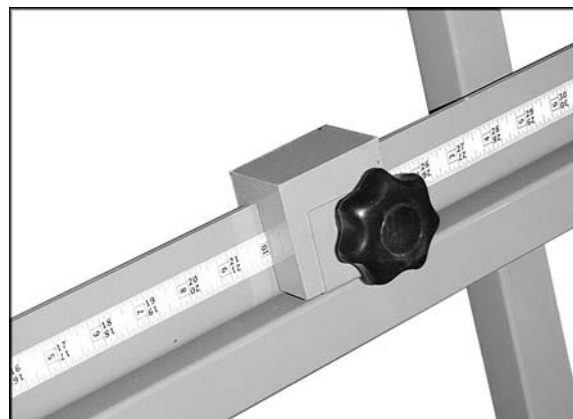

Figure 10
3. Move the adjustable stop (optional accessory no. 511-ASA), shown in Figure 10, to the measurement on the horizontal scale (either left or right side of carriage) that matches the desired width of your cut.